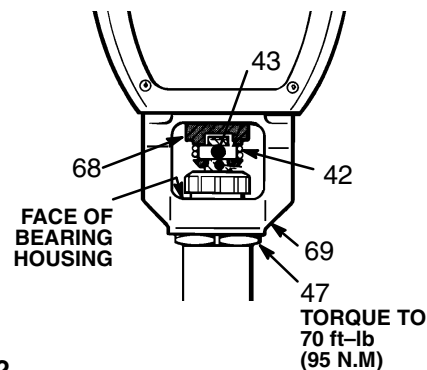

Fig 34-2
12. Screw the displacement pump 3/4 of the way into the bearing housing (69). Hold the pin (43) up to the pin hole in the connecting rod (68). Screw in the pump until the pin slides easily into the hole. Back off the pump until the top threads of the pump cylinder are flush with the face of the bearing housing and the outlet adapter (A) is facing back. Push the retaining spring (42) into the groove all the way around the connecting rod. Tighten the locknut (47) very tight – about 70 ft-lb (95 N.m) – with a 2 in. open end wrench and a light hammer. See Fig 34-2.
Be sure the retaining spring (42) is firmly in the groove all the way around, to prevent the pin (43) from working loose due to vibration. See Fig 34-2.